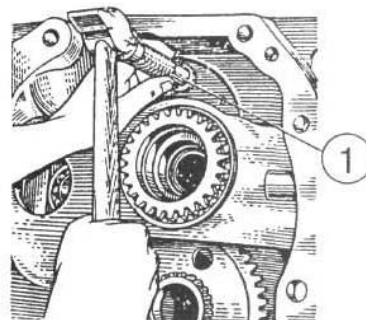

Figure 4.41
c) using knocker 1 (Figure 4.41) press gear axle off clutch body;